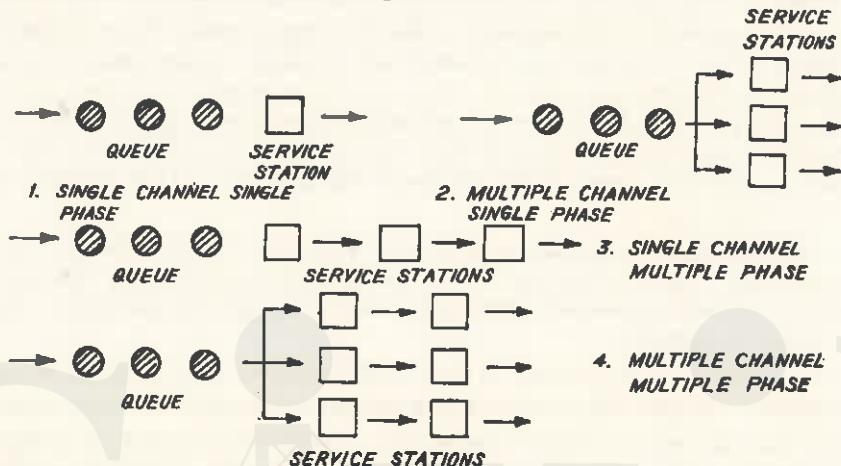

Fig. 11.36. Structures of waiting line situations.
Structures of Queue Forming Situations. (1) Arriving units or persons form one line and are serviced through only one facility. For example, persons are standing in queue at the post office window to collect stamps, etc., and there is only one clerk sitting at the window for selling stamps. This is called single channel, single phase case, Fig. 11.36 (1).
(2) Arriving units or persons form one line but there are more than one service facility or service stations, as in a barber shop with more than one barber working at a time. This is a multichannel, single phase case, Fig. 11.36 (2).
(3) In another structure called single channel multiple phase case, arriving units again form one line but there are a number of service stations in series, Fig. 11.36 (3).
(4) Lastly, in multichannel multiple phase case there are two or more parallel servicing lines, Fig. 11.36 (4). Example—checkout counters of a super-market.